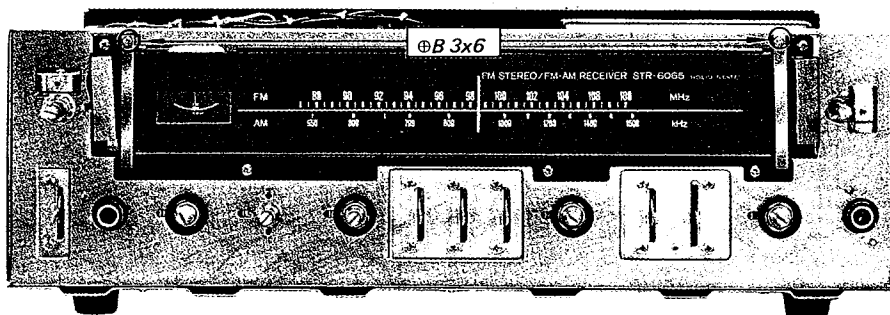

Fig. 2-12. Dial scale removal
3. Remove the two self-tapping screws ($\Phi B 3 \times 6$) securing the dial-scale holder to the front sub-chassis as shown in Fig. 2-12.